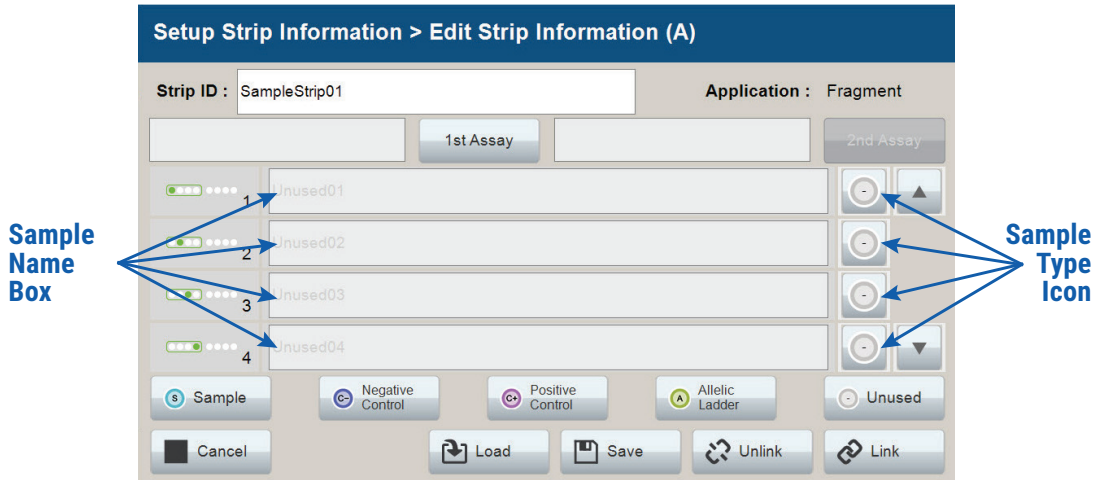
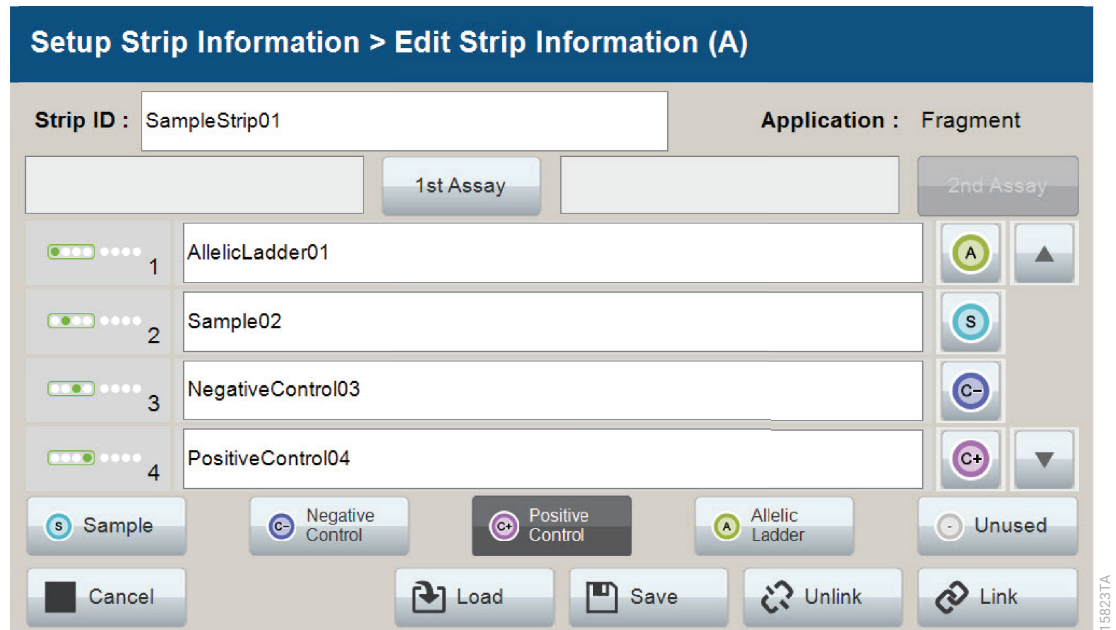
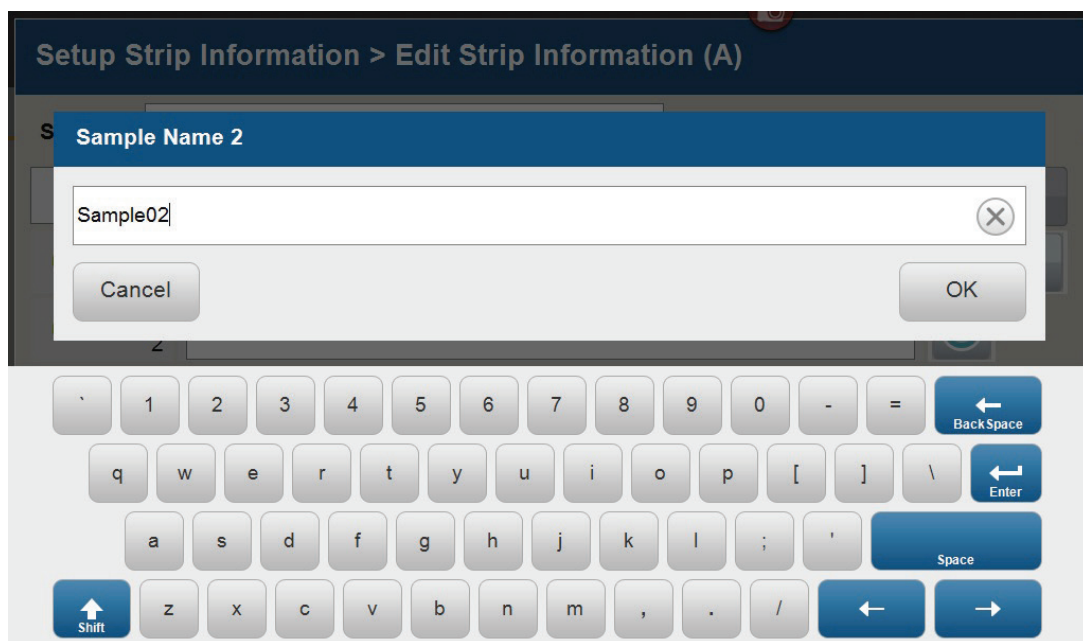
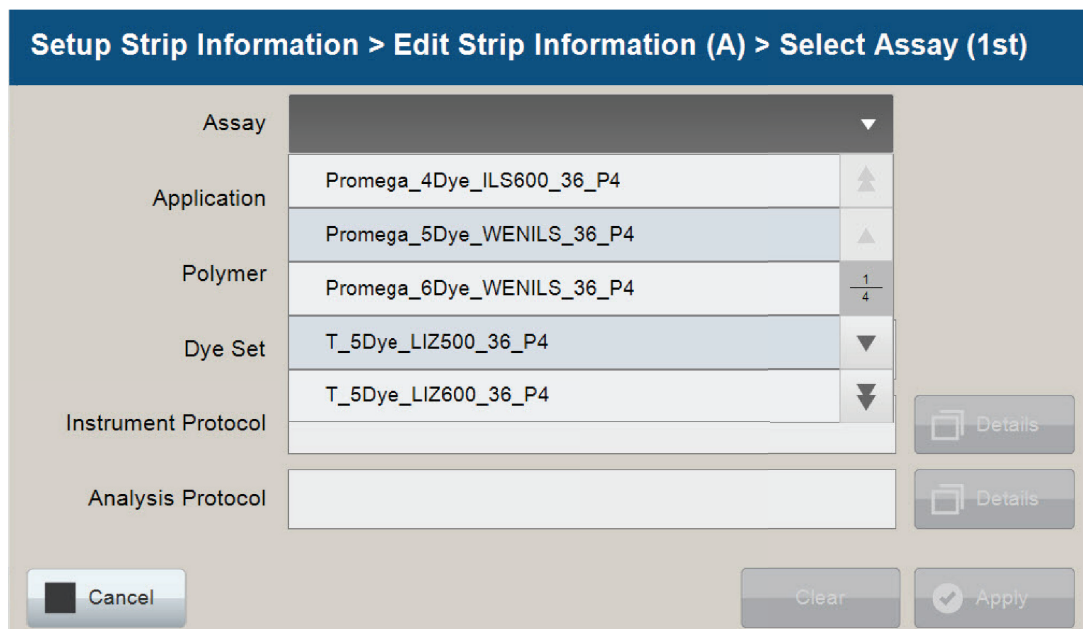

Figure 15. Sample Type and Sample Name on 'Edit Strip Information' screen.
Figure 16. Sample Name Entry on 'Edit Strip Information' screen.
Figure 17. 'Set Sample Name' window.
Figure 18. 'Select Assay' window.
4. Select a sample type on the 'Edit Strip Information' screen (Figure 15). Sample types must be selected for each well position before the Sample Name box becomes active for entry of sample name. Sample types are as follows.
5. To assign a sample type to a well, select the appropriate sample type along the bottom of the 'Edit Strip Information' screen (Figure 15), and then select the **Sample Type** icon to the right of the sample name field for the desired well. This icon will then display the sample type selected for that well (Figure 16).
6. Enter a sample name for each well position by selecting the Sample Name box adjacent to the well number on the 'Edit Strip Information' screen (Figure 16). This opens the 'Set Sample Name' window and a keypad will become active on the touch screen (Figure 17). Alternatively, the Sample Name can be entered using a traditional keyboard if one is connected to the Spectrum Compact CE System. Enter the appropriate sample name, and then select **OK** to exit and return to the 'Edit Strip Information' screen.
- The Spectrum Compact Control Software includes preloaded run assays for use with chemistries available from Promega. Refer to the *Spectrum Compact CE System Operating Manual* #TMD058 for information on creating or modifying assays. To assign a run assay to an injection set, select **1st Assay** on the right side of the 1st Assay field (Figure 16). This opens the 'Select Assay' window (Figure 18). Select "Promega_5Dye_WENILS_36_P4" from the drop-down list (Figure 18) and then select **Apply**.